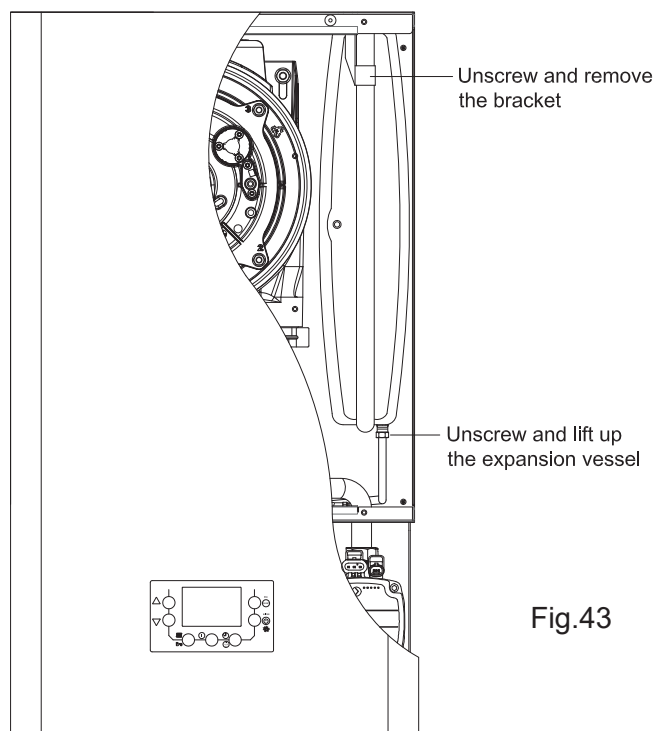

Fig.43
8.8 TO REMOVE/REPLACE EXPANSION VESSEL (Fig.43)